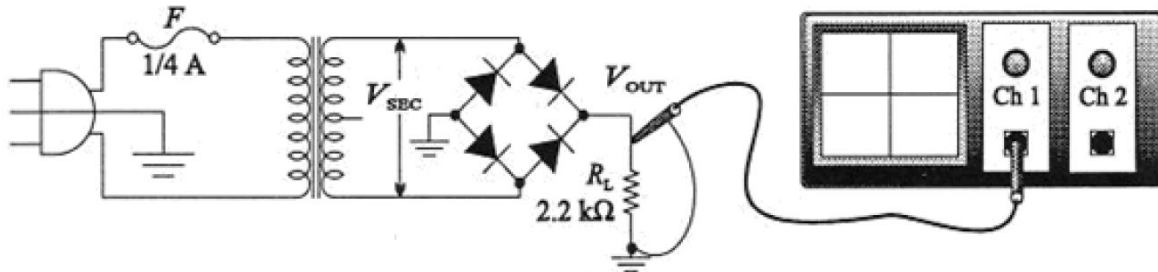
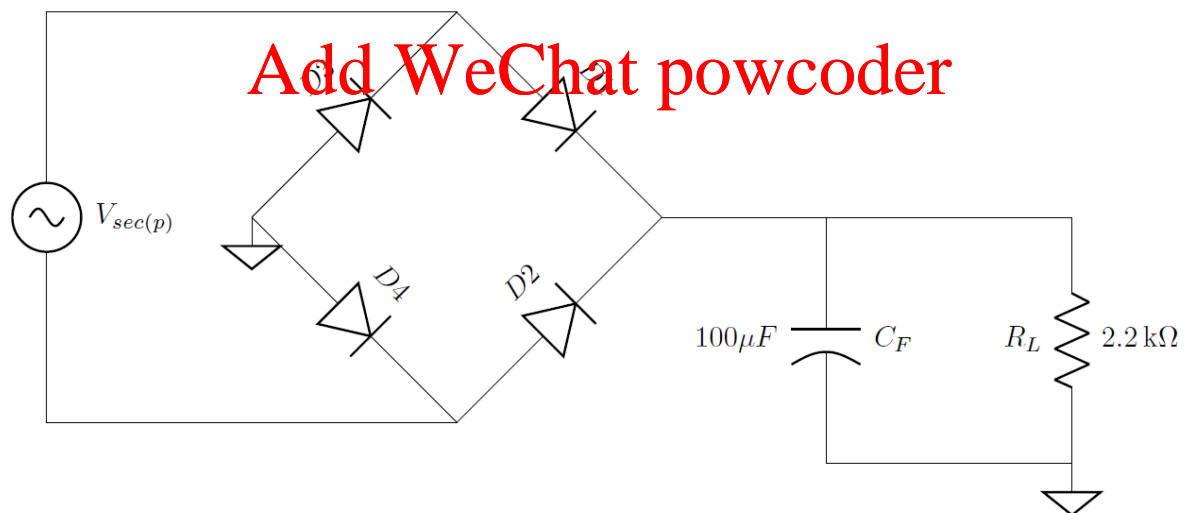
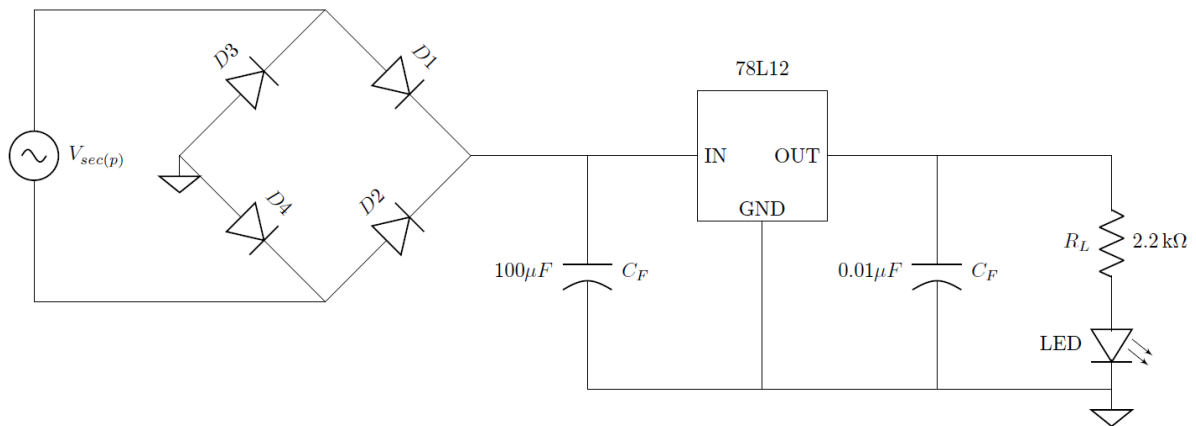
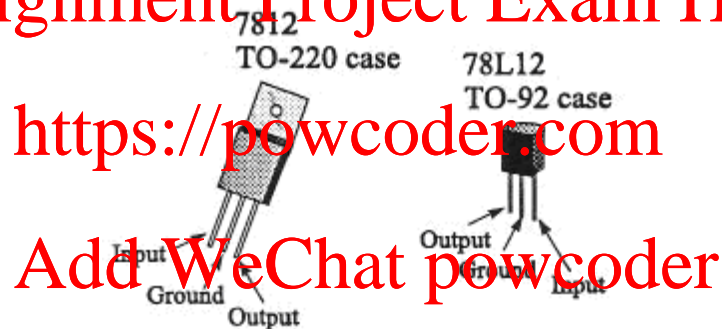

Figure 1: Diode bridge rectifier circuit.
Figure 2: Diode bridge rectifier circuit with smoothing capacitor.
Figure 3: Diode bridge rectifier with smoothing capacitor and zener regulator.
Figure 4: Zener Regulator pin diagram.
- Simulate the circuits in **Figure 1** and **Figure 2** in PSPICE/LTSPICE and complete the results in **Table 1**. Pspice/LTspice does not have 78L12 part name so simulation results of **Figure 3** are not required.
Consider the circuit shown in the **Figure 1**. Results for this circuit are to be tabulated in **Table 1**.
1. Using the breadboard in TinkerCAD, construct the full-wave bridge rectifier by laying out four diodes and a load resistor, as shown in **Figure 1**. The ground symbol is not necessarily connected to Earth – the two ground points indicated here should be connected together.
Note: In practice, the oscilloscope should not be used to view both the secondary voltage V_{sec} and the output voltage V_{out} in the **Figure 1** at the same time. The reason is that the ground terminals of the probes are internally connected together.
6. Now consider the full-wave rectifier circuit with capacitor as shown in the **Figure 2**.
7. Connect the 100 μF (electrolytic, polarised) capacitor in parallel with the load resistor as shown in **Figure 2**. Make sure the electrolytic capacitor polarity is correct. Measure $V_{out(p)}$, $V_{r(pp)}$ and the ripple frequency using the oscilloscope. Record the values in **Table 1**. Use measured $V_{out(p)}$ to calculate measured $V_{out(DC)}$. You can take a screenshot of the oscilloscope for inclusion in your report. Also be mindful of report length constraints.
8. Now consider the full-wave rectifier circuit with capacitor and regulator as shown in the **Figure 3**. Unfortunately, the 78L12 is not available in TinkerCAD. Please utilise the lab recordings to finalise the lab tasks. Instructions have been retained as though you were attending the practical lab.
9. You can construct the circuit in **Figure 3** from the already soldered circuit for **Figure 2**. For this purpose, disconnect (or cut off) the load resistor R_L from the soldered circuit for **Figure 2**, and then add the 78L12 regulator with an additional $0.01\mu F$ capacitor, which is required for the regulator to operate properly. In the output load side, connect a $2.2\text{ k}\Omega$ resistor in series with a LED to indicate the presence of power.
10. Connect and solder a 78L12 regulator to provide +12V regulated output voltage as shown in **Figure 3**. The 78L12 regulator (shown in **Figure 4**) is a three terminal component. The letter “L” in the name 78L12 means small power option which can deliver over 100 mA and “12” denotes a 12V output. If more output current is required such as 1.0 A then you would need to use 7812 regulator.